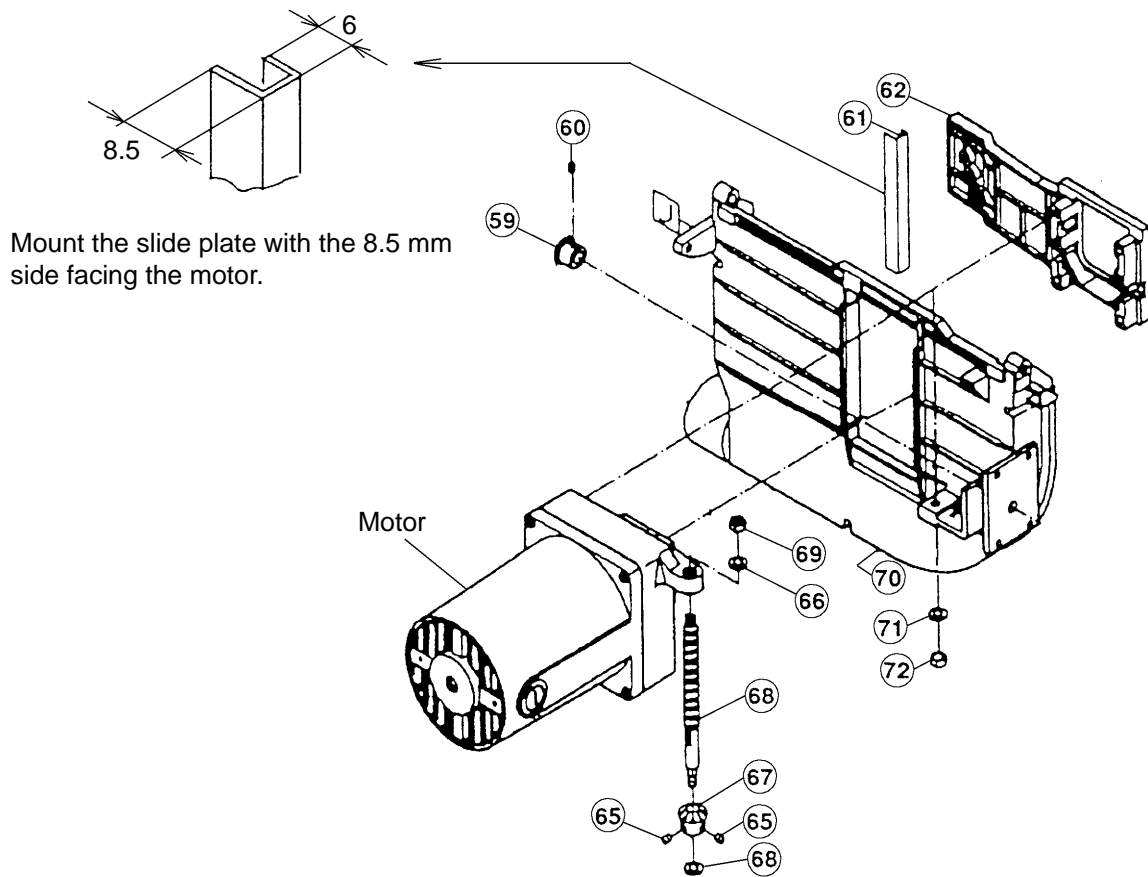

Fig. 7
- (4) When assembling the Slide Plate **[61]**, see Fig. 7 for the direction in which it is mounted on the Body **[70]**.